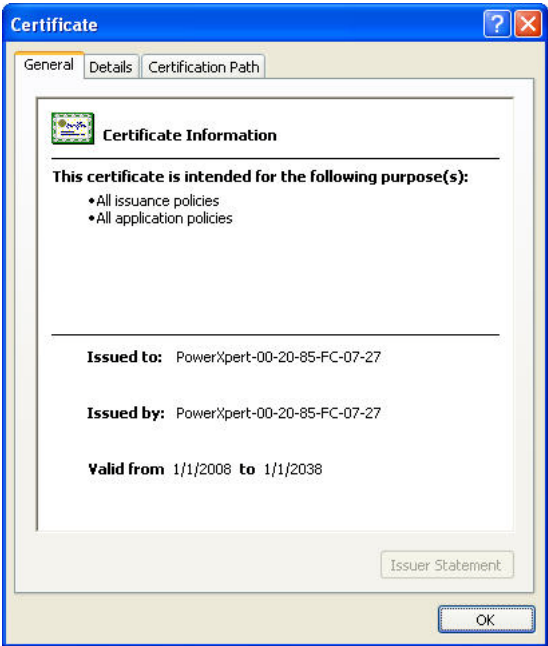

Figure 48. Certificate Window
- d. Click **View** to open the Certificate window (see Figure 48).